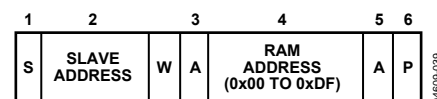

Figure 37. Setting a RAM Address for Subsequent Read
The SMBus specification defines several protocols for different types of read and write operations. The following abbreviations are used in Figure 37 to Figure 45:
- To write a register address to RAM for a subsequent single byte read from the same address, or for a block read or a block write starting at that address, as shown in Figure 37.